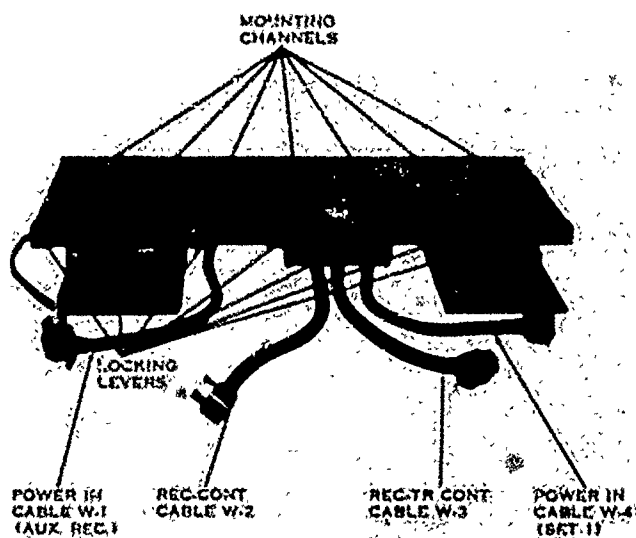

Figure 4-6. Mount MT-327/GR.
- (5) MT-327/GR (AN/VRC-18). (Figure 4-6)